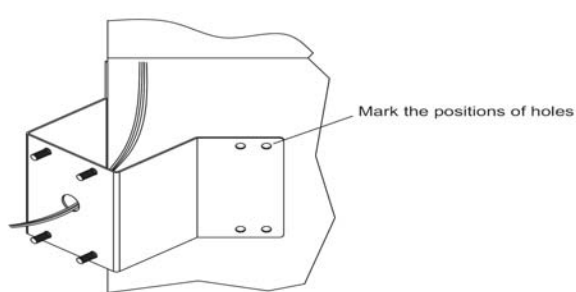

FIG.33
- G-1.** First mark the position of holes placing the corner mount bracket.(FIG. 33)